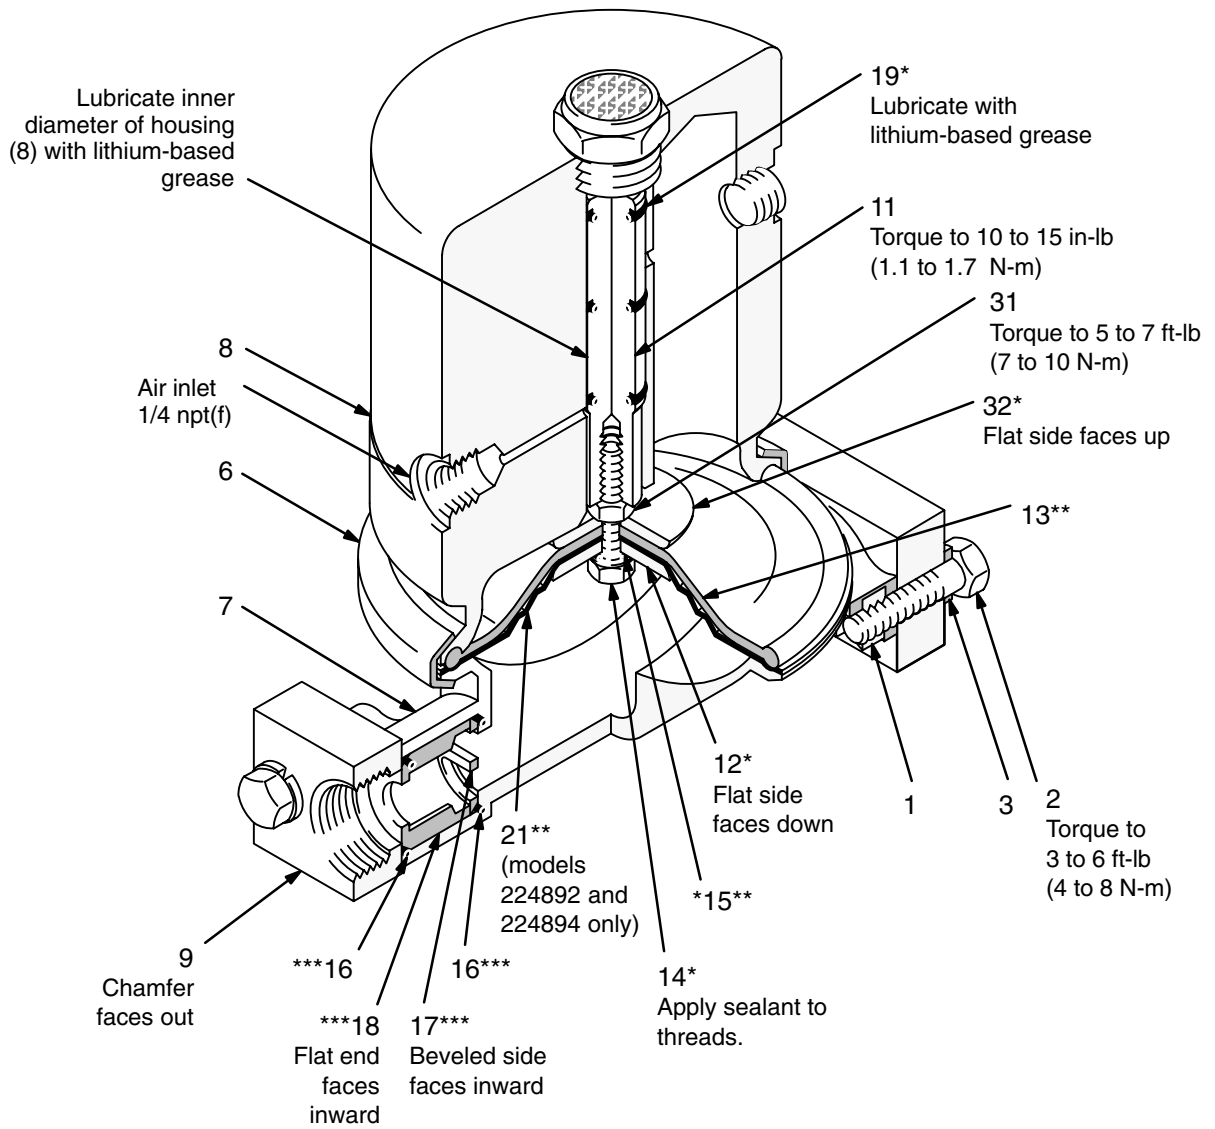

Fig. 2
3. Remove the v-clamp (6). See the **Parts Drawing** on page 12.
4. Separate the housing (8) from the cover (7) to expose the diaphragm and shaft assembly. Pull the diaphragm and shaft out of the housing. See Fig. 2.
5. Remove the three o-rings (19) from the shaft (11).
7. Lubricate the inner diameter of the housing (8) with lithium-based grease. Slide the shaft and diaphragm assembly into the housing (8). Place the cover (7) on the housing (8).
8. Position the clamp (6) around the housing (8) and cover (7). Apply thread lubricant to the threads of the v-clamp, secure with the nuts, and torque to 6 to 10 ft-lb (1.4 to 13.6 N.m). See the **Parts Drawing** on page 12.
5. Hold the bolt (14) steady with a wrench. Wrap a rag around the shaft (11) to protect it, then unscrew the shaft from the bolt using locking pliers. Remove the nut (31), upper diaphragm plate (32\*), diaphragm (13), PTFE diaphragm plate (32\*), diaphragm (13), PTFE diaphragm plate (12), and o-ring (15) from the bolt. Clean and inspect all parts for wear or damage.
3. Remove the bolts (2), lockwashers (3), and nuts (1) holding one manifold (9) to the cover (7). Repeat for the other side. See Fig. 2.
4. Pull the two o-rings (16), guide (18) and stop (17) out of the cover (7). Repeat for the other side. Clean and inspect all parts for wear or damage.
5. Push one o-ring (16\*\*\*) all the way into the cavity of the cover (7). Install the stop (17\*\*\*) with the beveled side facing inward. Install the guide (18\*\*) with the flat end facing inward, then install the second o-ring (16\*\*\*) around the outer edge of the guide. Repeat for the other side.
6. Install the manifold (9) on the cover (7) with the chamfer facing outward. Secure with the bolts (2), lockwashers (3), and nuts (1). Torque to 3 to 6 ft-lb (4 to 8 N.m). Repeat for the other side.